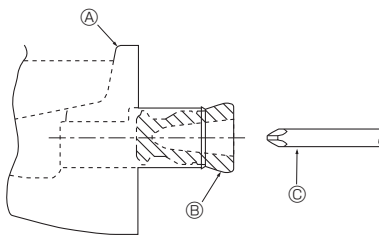

Fig. 5-1
- For left side tubing, be sure to insert the rubber plug into the right drain port. (Fig. 5-1)
- ① Drain pan
- ② Plug
- ③ Insert the driver etc. in the plug deeply.